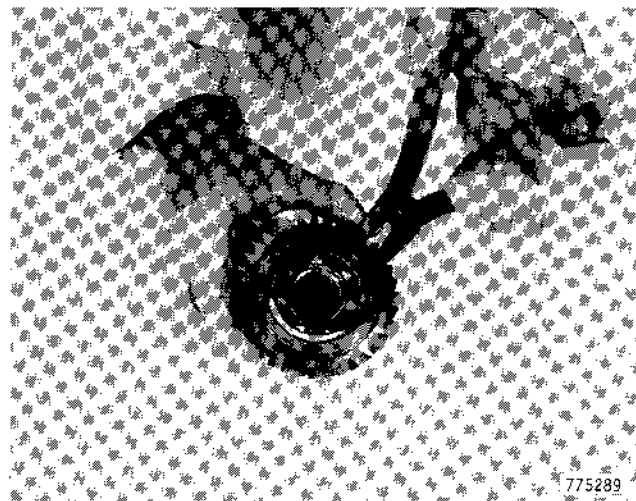

Figure 13
8. Lay idler gear on bench and remove one of the larger snap rings, Figure 13.